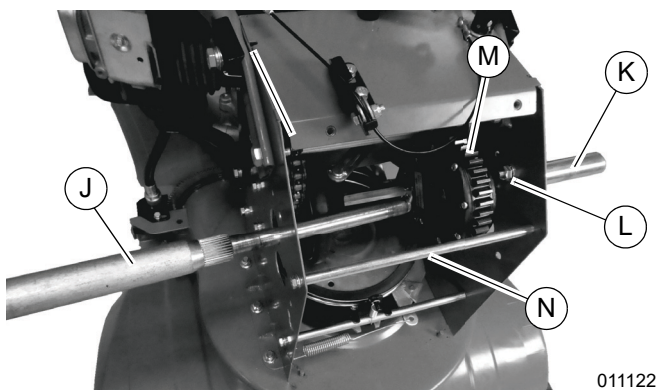

Figure 4-33. Rear Strut Assembly
6. See Figure 4-33. Install long drive shaft (J), short drive shaft (K), shaft sleeve (L) and differential (M) into the machine. A dead blow hammer may be needed to push longer shaft into shorter shaft.